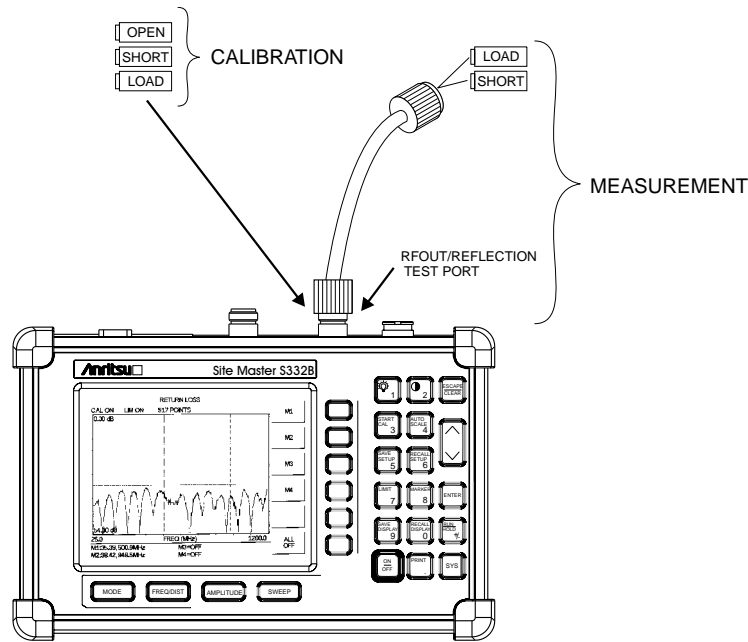

Figure 4-4. Cable Measurement Test Setup
**Step 16.** Connect the Load to the open end of the test port extension cable as shown in Figure 4-4.